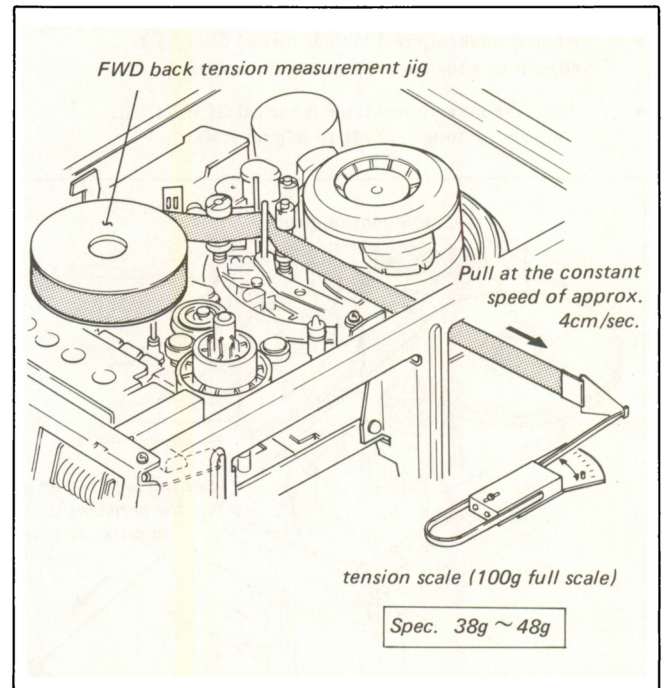

Fig. 7-7. FWD back tension adj.
3. Place the FWD back tension measurement jig (Jig Ref. No. J-6) onto the supply reel table and thread the tape as shown in Fig. 7-7. Attach the tension gauge (100g full scale) (Jig Ref. No. J-8) to the tape top.
4. Set up the PLAY mode. Pull the tension gauge at a speed of about 4 cm/sec. in the direction shown in Fig. 7-7. Confirm the reading is within the specification. If not, adjust as follows.